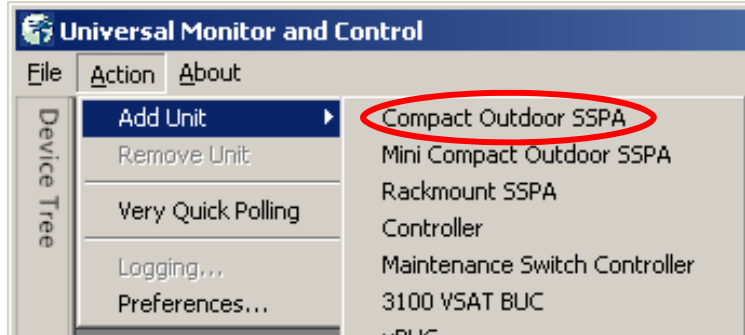

Figure 3-9: Universal M&C Add Unit menu
2. Select [Action] → [Add Unit] from the main menu of the Universal M&C Program and select [Compact Outdoor SSPA] from the menu choices. See **Figure 3-9**.